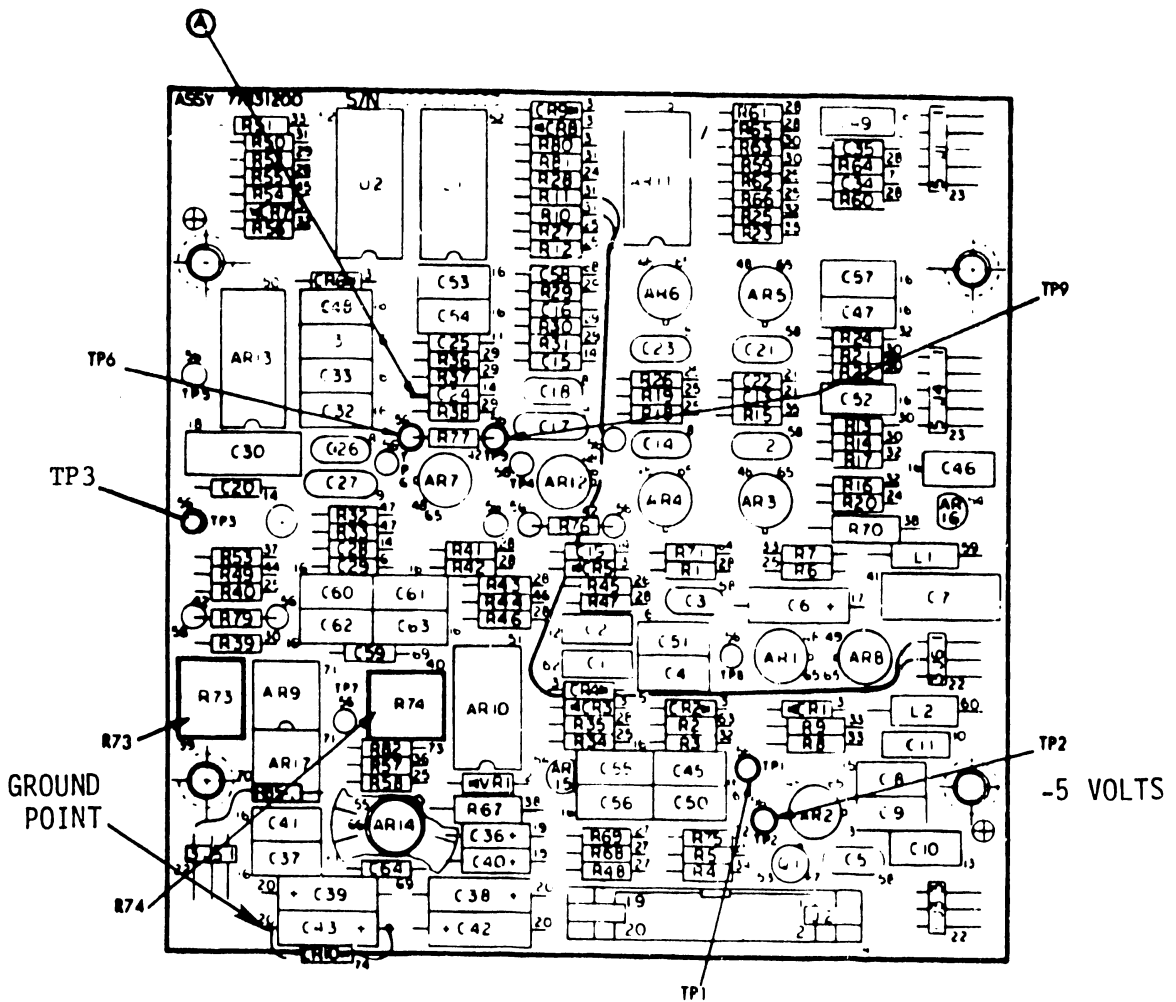

FIGURE 4-45 AGC SERVO PREAMP BOARD
- G. Attach the ground cable to the GND point (Figure 4-45) on the AGC servo preamp board.
2. Install a jumper from TP1 to TP9 (-5 volt supply) on the AGC servo preamp board (Figure 4-45).
3. Connect the oscilloscope to C24 (point A, Figure 4-45). Set the scope for internal trigger and auto sync.
9. Remove the jumper from TP1 and TP9. See Figure 4-45.
10. Connect the oscilloscope to TP3. See Figure 4-45.
- h. Monitor test point RSRW (ON cylinder pulse) on the exerciser (Figure 4-41). Adjust the velocity gain potentiometer (R73 in Figure 4-45) for a seek time of 35 ± 1 milliseconds (Figure 4-51).
9. Monitor TP19 (Figure 4-55) on the servo board, with channel A of oscilloscope; sync negative on this signal. Monitor TP3 (Figure 4-45) on the AGC preamp board, with channel B of oscilloscope. Place channel B in uncalibrated vertical position and adjust it until the waveform is five centimeters in amplitude. Perform alternate seeks between cylinders 408 and 410.